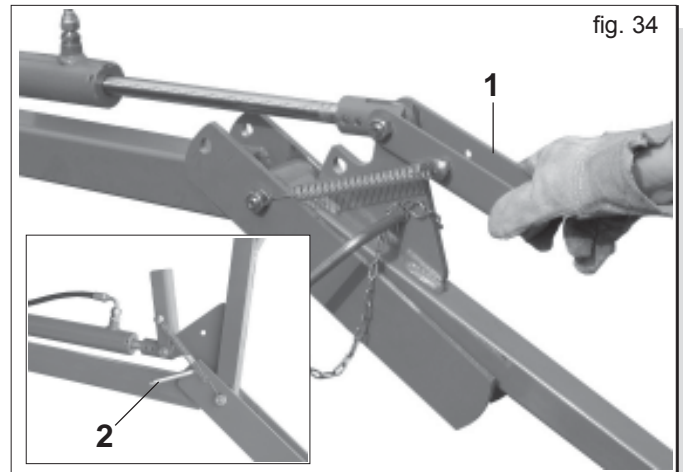

fig. 34
- 2) Raise the clamp (1 Fig. 34).
- 3) Actuate the hydraulic system to raise the seed-covering harrow fully into its transport position, lock it in place with the securing bolts (2 Fig. 34) and secure the bolts with the special retaining clips. **The securing bolts should be inserted from the inside of the machine towards the outside, otherwise they would be damaged by the raising of the rear trolley.**